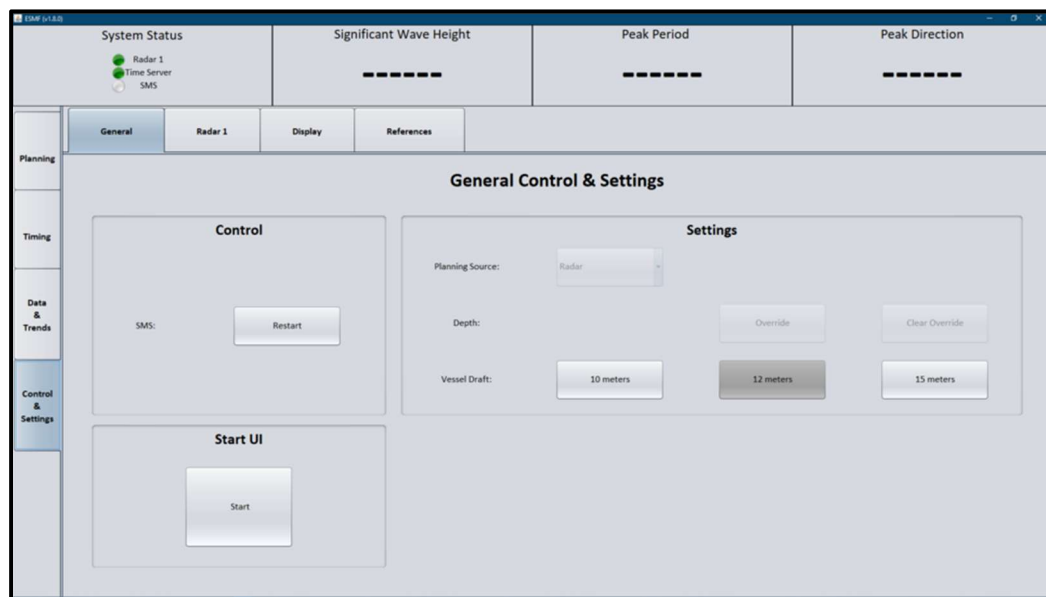

Figure A1: Initial Display - **General Tab**
3. Select the FutureWaves™ icon on the Windows Desktop and double click or press enter to start the FutureWaves™ Graphical User Interface (GUI). Once the GUI starts, the display should appear as shown in Figure A1.